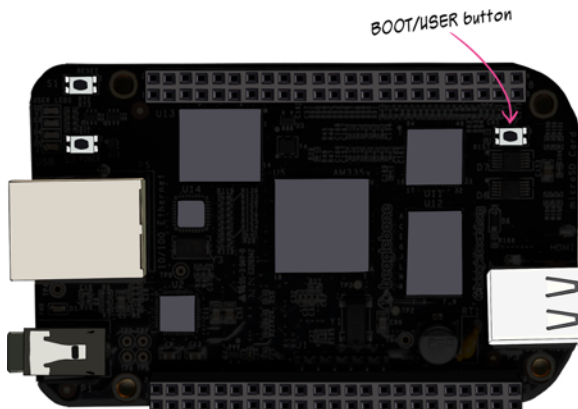

Figure 12.6 Hold down the BeagleBone Black's BOOT/USER button to boot from the SD card.
- 4 Hold down the USER/BOOT button (figure 12.6) and plug power into the BeagleBone Black. Keep holding down the button until the LEDs start blinking madly. Release the button.